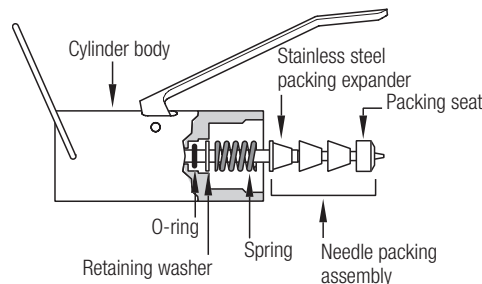

Figure 2
6. Lubricate the needle with Nye Lubricants #865 grease and reinstall the needle packing spring and a new packing kit. *See Figure 2.*